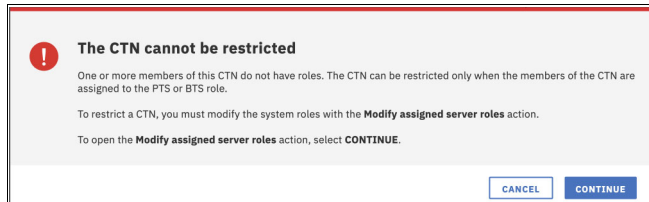

Figure 3-43 Server without an assigned role cannot be restricted
2. Because no role is assigned to the second server (B26), it is not possible to restrict CTN membership for this configuration (see Figure 3-43):